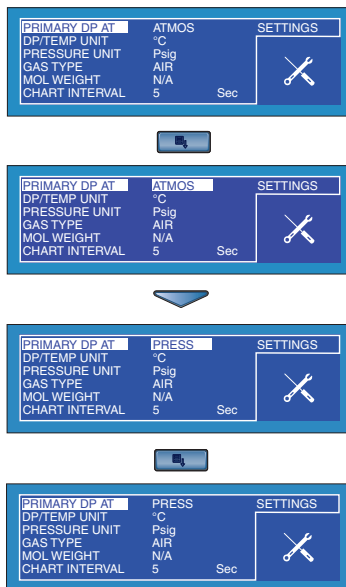

Figure 2.8 - General settings menu
2.6.1 General settings (Figure 2.8)
When the main menu is first entered, the general SETTINGS option is highlighted in reverse video. This is the general settings option and the associated menu (Figure 2.8), is displayed by pressing the Enter key..
To change this field value, press the Enter key and use either the ▲ (up) or ▼ (down) scroll keys to select the required value and then press the Enter key to accept it. An example of the key sequence for changing the field value from ATMOS to PRESS is shown in Figure 2.8.